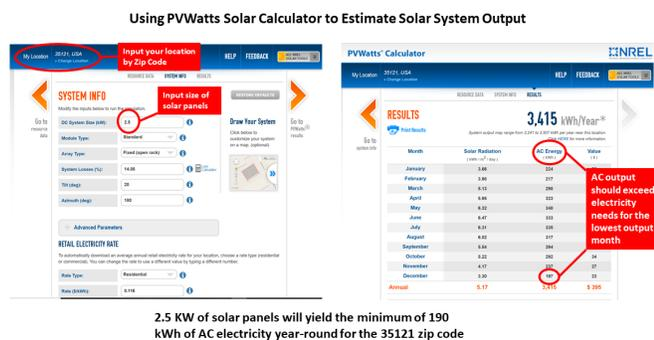

Figure 2. This PVWatts solar calculation shows that 2.5kW of solar panels will provide the needed power in the lowest solar month of December.
4. Input various wattages of panel capacity into the program until the results yield sufficient power availability during the lowest solar months of December and January. For a typical location in North Alabama, the PVWatts results show us that 2.5kW of solar panels will provide the needed power in the lowest solar month of December (figure 2).